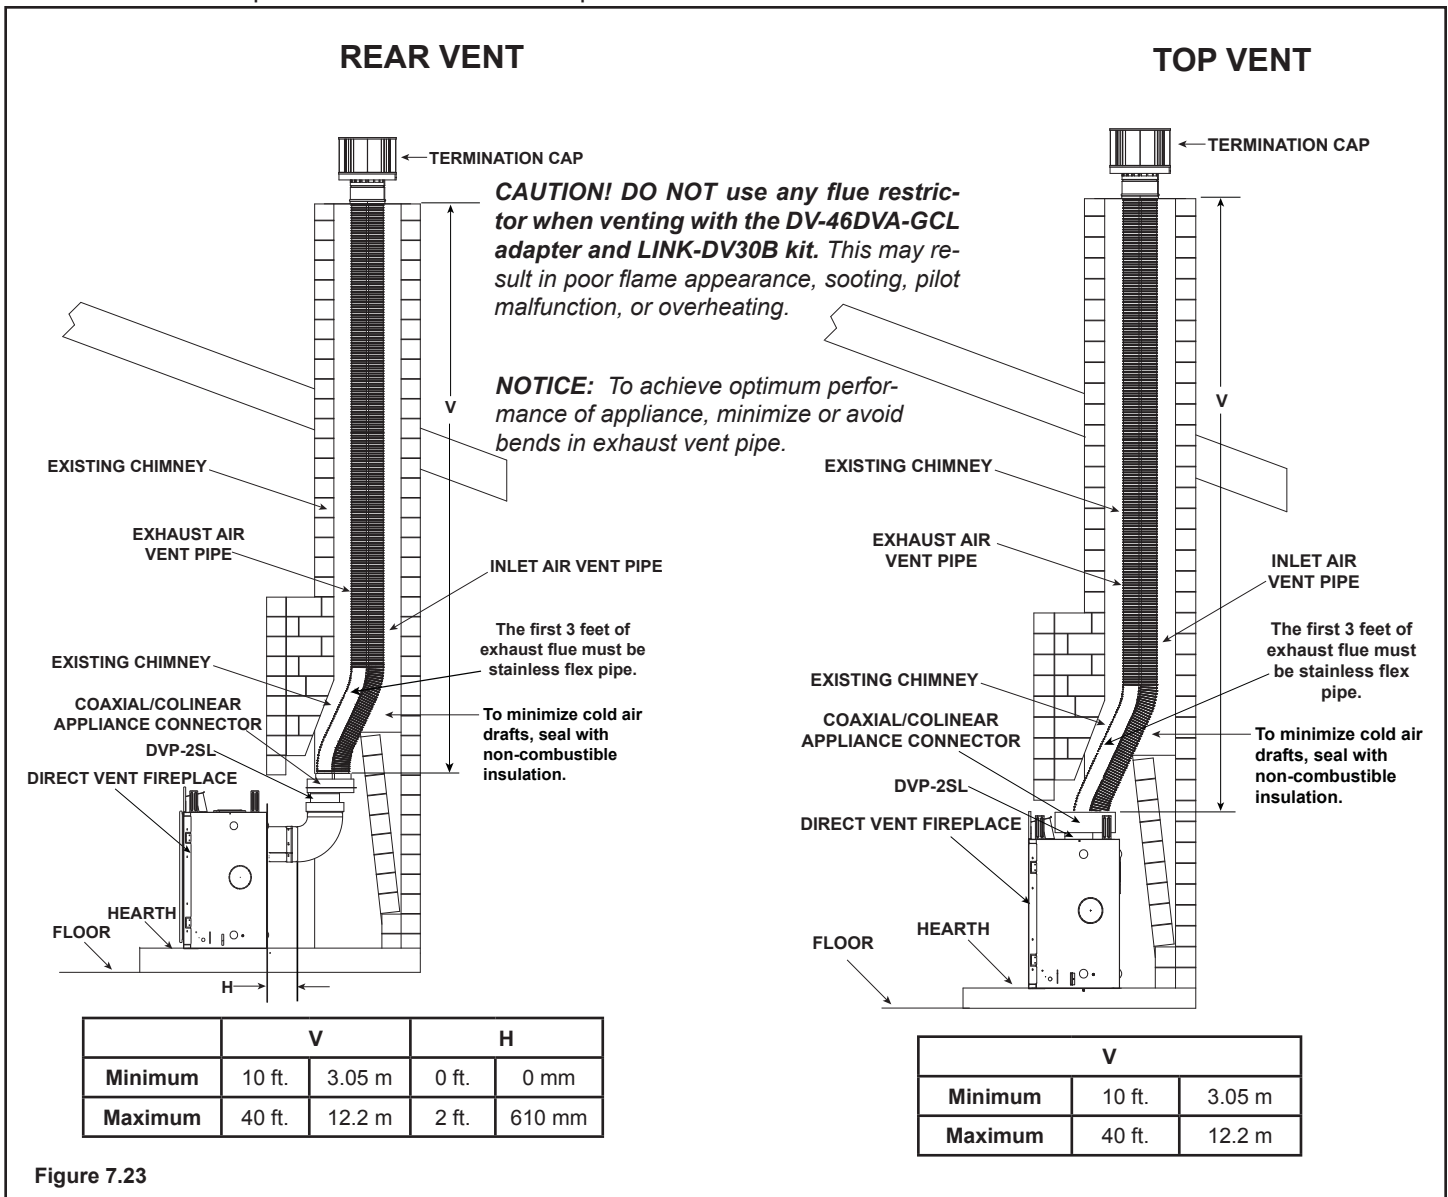

Figure 7.23
- Remove top seal cap and insulation if equipped. See Section 14, "Appliance Setup." Attach the DVP-2SL to the 8 inch starting collar. Follow installation instructions included with DVP-2SL kit. Attach the DV-46DVA-GCL adapter to the appliance starting collar with 3-1/2 in. self-tapping screws. See Figure 7.23.
- Remove the rear seal cap and insulation if equipped. Connect the DVP-2SL adapter to the vertically positioned elbow. Follow installation instructions included with DVP-2SL kit. Secure DV-46DVA-GCL adapter to DVP-2SL with 3-1/2 in. self-tapping screws. See Figure 7.23.